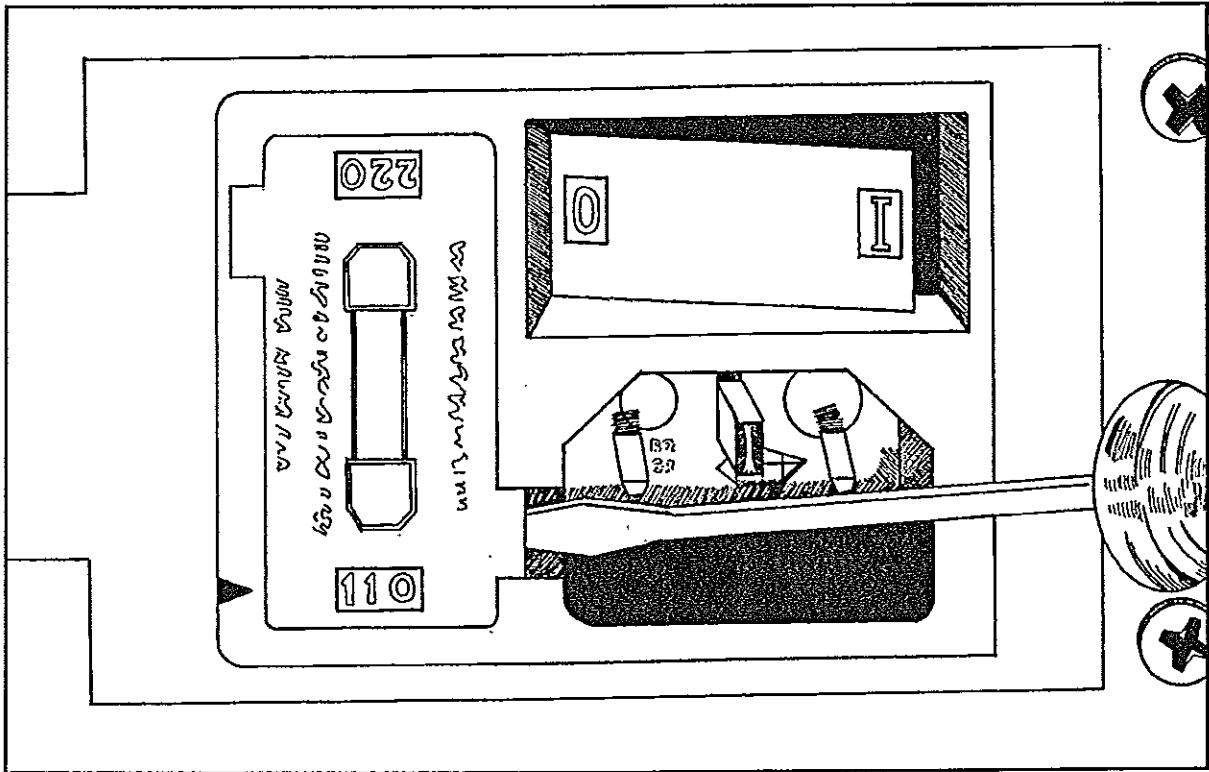

Fig. 10-1. HemeSpec Plus Back.
2. Use a screwdriver blade to withdraw the fuseblock (Fig. 10-1).